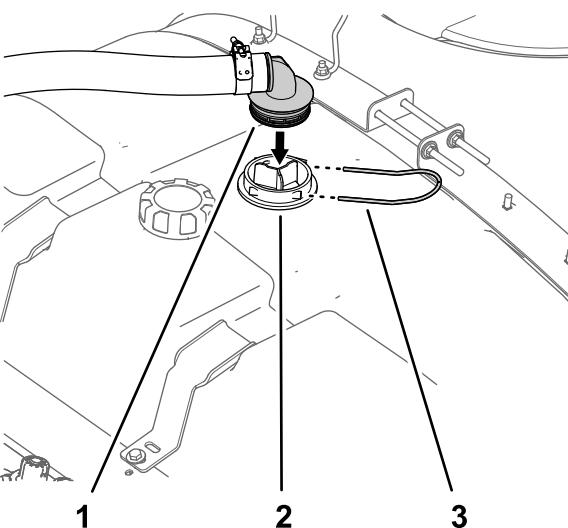

Figure 18
1. Align the 90° barbed fitting of the supply hose with the housing for the suction screen (Figure 18).
2. Secure the 90° barbed fitting to the housing (Figure 18) with the retainer fork that you removed in step 1 of Removing the Rinse Tank \(page 5\).